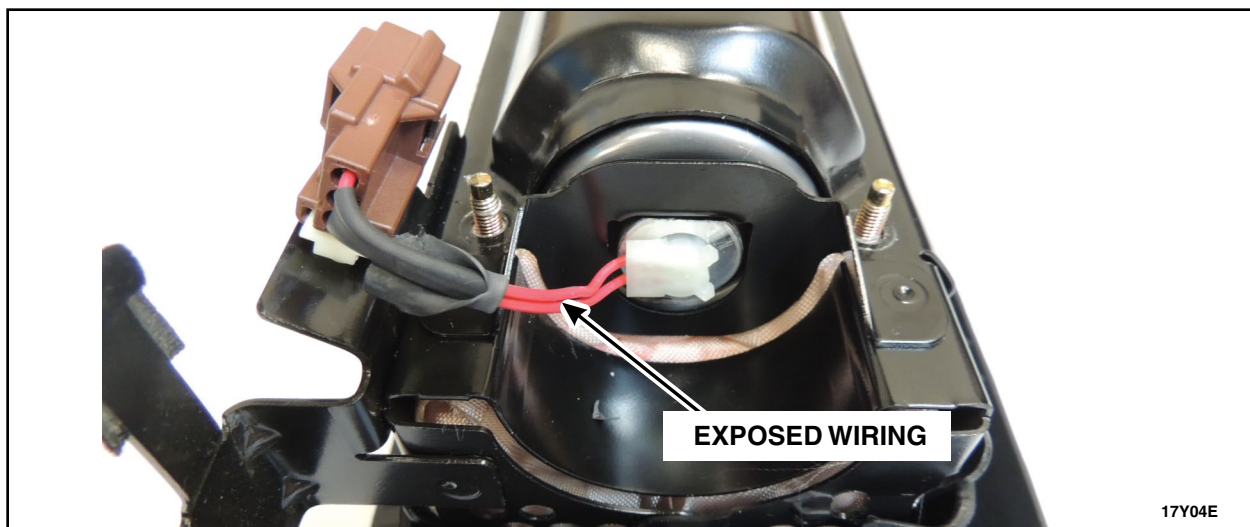

FIGURE 5
3. Cut and peel back wiring sleeve to expose inflator wiring. See Figure 5.